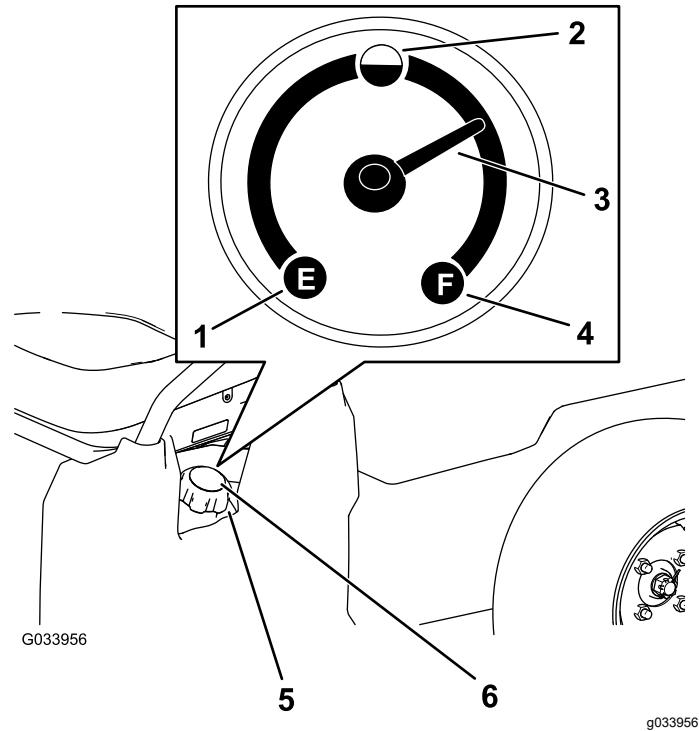

Figure 11
5. Clean the area around the fuel-tank cap (Figure 11).